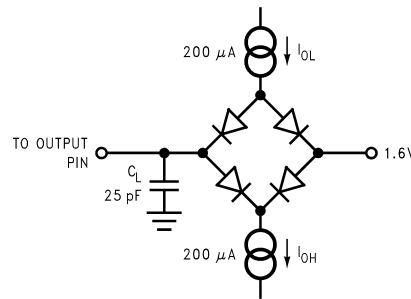

Figure 1. Timing Test Circuit
(1) All input signals are specified as t_r = t_f = 5 ns (10% to 90% V_{DD}) and timed from 1.6 V.
(2) Minimum quiet time required between bus relinquish and start of next conversion.
(3) Measured with the load circuit (Figure 1), and defined as the time taken by the output to cross 1 V.
(4) Measured with the load circuit (Figure 1), and defined as the time taken by the output to cross 1 V or 2 V.
(5) t_8 is derived from the time taken by the outputs to change by 0.5 V with the loading circuit (Figure 1). The measured number is then adjusted to remove the effects of charging or discharging the 25-pF capacitor. This means t_8 is the true bus relinquish time, independent of the bus loading.